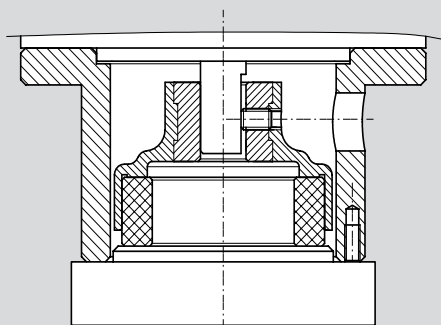

Fig. 2 - MGAF series external magnets with "D" shaft
6. Place the motor vertically on the AT152/1 device with the magnet facing downwards in order to place the magnet in the correct position (fig. 2). Tighten the dowel to the maximum torque of 1.5 Nm. MGAF series external magnets with "D" shaft.